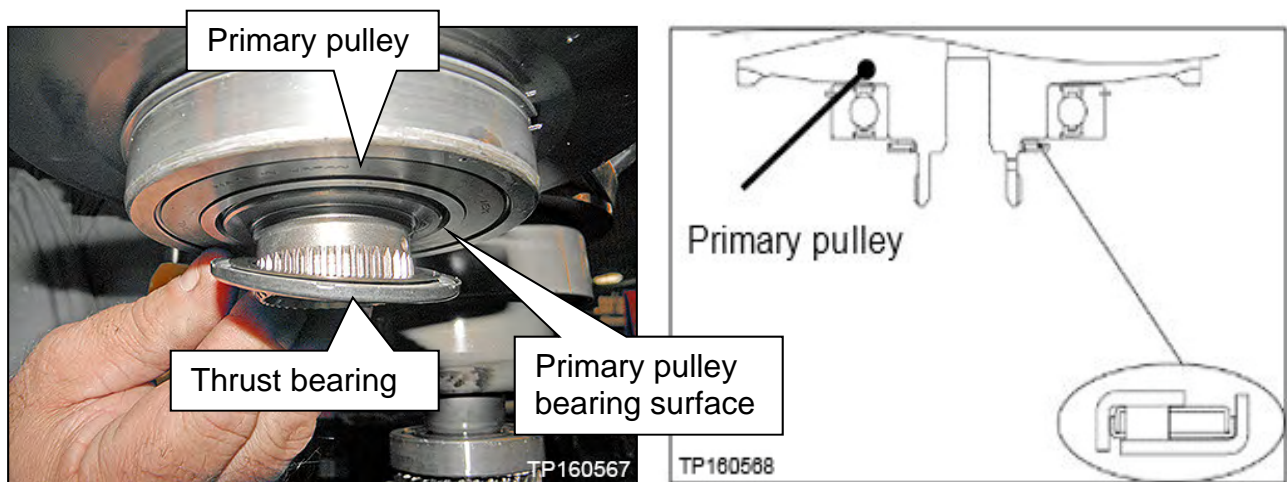

Figure 89
66. Install the original thrust bearing onto the primary pulley of the new sub-assembly (Figure 89).
**CAUTION:** The thrust bearing has two different sides. Reference Figure 89 for correct bearing orientation.
- The thrust bearing must sit flush with primary pulley surface (Figure 89).